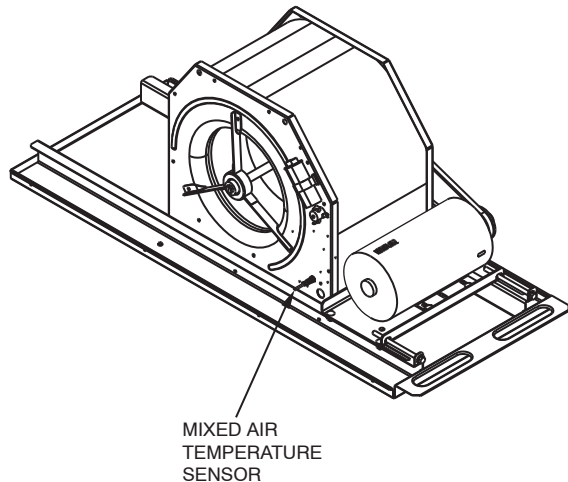

Fig. 12 – MAT Location (Sizes 03-14 Shown)
- Install mixed air temperature sensor (MAT) into blower slide plate. Open blower access door. Locate 1/4-in. hole in blower side plate. (See Fig. 12.) On size 03-14 units, the hole is located opposite the drive end. On size 16 units, the hole is in the drive end of the closest blower to the access panel. Insert MAT into hole until the spring clips catch. The MAT is self secured by the spring clips. Locate black leads with insulated 1/4-in. quick connects in wire harness located on the left hand side of blower compartment. These two wires are labeled SAT. Connect the two wires to the 1/4-in. insulated quick connects on the sensor. These are non-polar connections. Dress wires to ensure that loose wires do not get drawn into the blower. Close blower access panel.
16. Install mixed air temperature sensor (MAT) into blower slide plate. Open blower access door. Locate 1/4-in. hole in blower side plate. (See Fig. 12.) On size 03-14 units, the hole is located opposite the drive end. On size 16 units, the hole is in the drive end of the closest blower to the access panel. Insert MAT into hole until the spring clips catch. The MAT is self secured by the spring clips. Locate black leads with insulated 1/4-in. quick connects in wire harness located on the left hand side of blower compartment. These two wires are labeled SAT. Connect the two wires to the 1/4-in. insulated quick connects on the sensor. These are non-polar connections. Dress wires to ensure that loose wires do not get drawn into the blower. Close blower access panel.